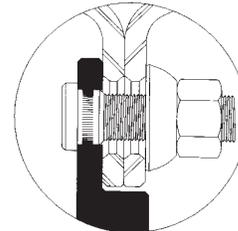

Figure 11
- ◆ Stud piloted wheels should not be used with hub piloted hubs, wheels, or flange nuts (See Figure 11). Chamfered stud piloted wheels do not have sufficient surface area near the bolt hole to support the flange nut. This type of mis-assembly may lead to loss of torque, broken studs, and cracked wheels. Information about mounting types and sizes is found in Accuride's Wheel and Rim Catalog.